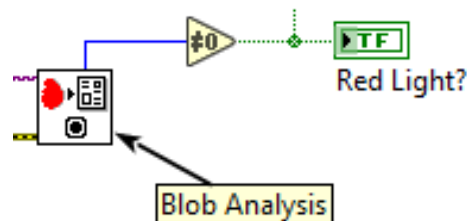

Figure 2.2: Block diagram to indicate whether or not a red light has been detected.
4. Connect the output of the Not equal to 0? block after the Blob Analysis block, to the Red Light? block as shown in Figure 2.2, and run the VI with the Enable motion? still set to OFF.
2. Connect the output of the Not equal to 0? block after the Pattern Matching block to the Hospital? block as shown in Figure 2.2, and run the VI with the Enable motion? turned ON. Does the VI meet all the functionalities?